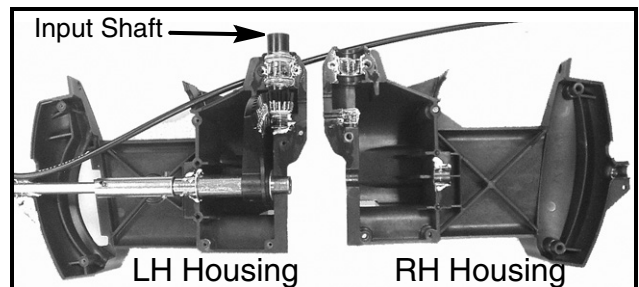

FIGURE 8
11. Holding the lower housing half (LH side) firmly, remove the RH housing half. See Figure 8.